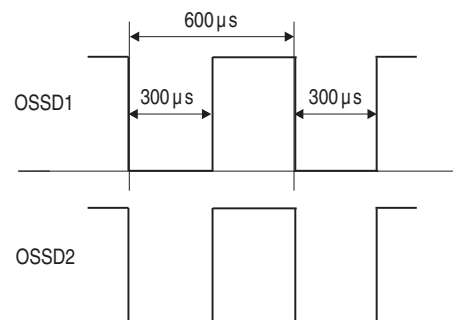
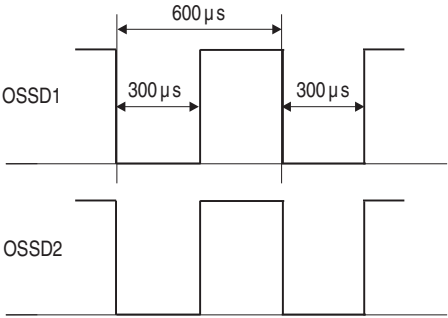
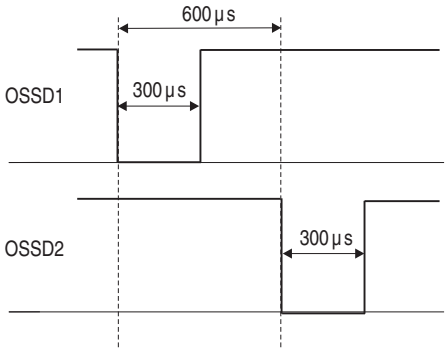

Figure 66: Voltage test after switching on the OSSDs
Figure 67: Figure 66: Shut-down test
Figure 68: Voltage Test
After a further half basic response time of the SafeZone safety laser scanner there is a shut-down test ②, 120 ms later a further voltage test ③. Then the SafeZone safety laser scanner performs a shut-down test and a voltage test alternately at an interval of 120 ms. Figure 66, Figure 67 and Figure 68 show the pulse durations for the individual tests.